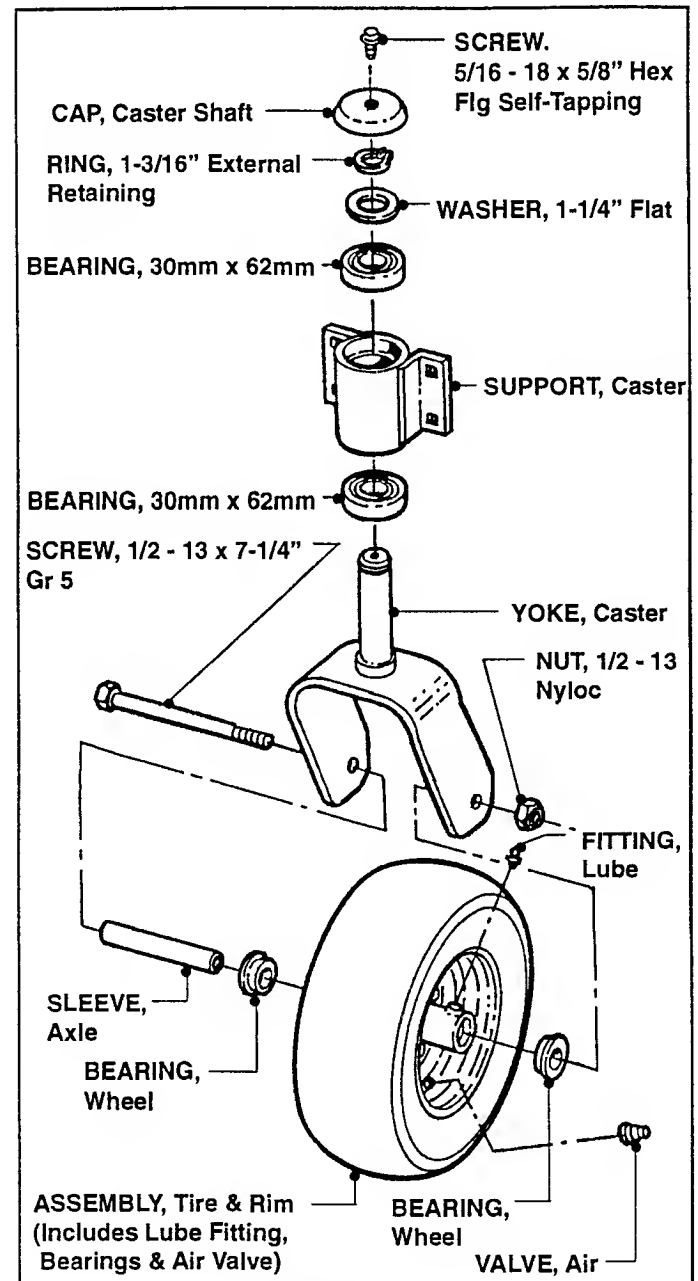

FIGURE 6.2
Components of the Caster Wheel Assembly are shown in Figure 6.2.
1. Remove 1/2 - 13 x 7-1/4" Screw and 1/2 - 13 Nyloc Nut from Caster Wheel. Refer to Figure 6.2.
Items such as the Tire & Rim Assembly, Caster Yoke, Spacer Tubes and Retaining Hardware may be replaced with new parts during any reassembly sequence. Consult the Parts Manual for replacement numbers. Refer to Figure 6.2.